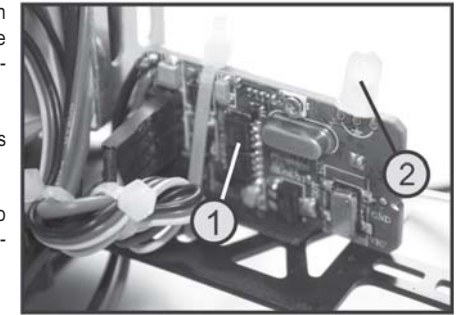

Figure 6
If the control LED (see figure 6, item 2) changes from green to red during flight, you have to charge your model immediately to prevent damaging deep discharging of the flight battery.